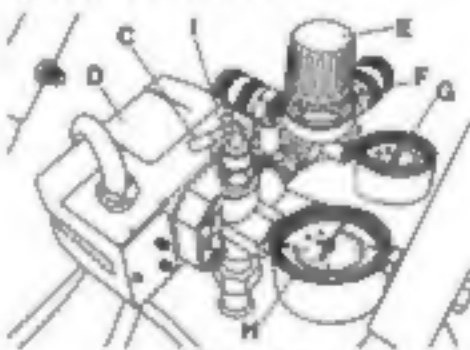

FIGURE 5
ON/AUTO-OFF SWITCH (C) FIG.5
PRESSURE SWITCH (D) FIG. 5
REGULATOR (E & F) FIG. 5
OUTLET PRESSURE GAUGE (G) FIG. 5
TANK PRESSURE GAUGE (H) FIG. 5
SAFETY VALVE (I) FIG. 5. If the pressure switch does not shut off the air compressor at its cutout pressure setting, this safety valve will protect against high pressure by popping out at its factory set pressure (slightly higher than the pressure switch cut-out setting).
9. Pull ring on safety valve (I) Fig. 5, allowing air to bleed from the tank until tank pressure is approximately 20psi. Release safety valve ring.
NOTE: If drain valve is plugged, pull ring on safety valve (I) Fig. 5, and hold until air pressure has been released. The valve can then be removed, cleaned, and reinstalled.
4. Pull ring on safety valve (I) Fig. 5, allowing air to bleed from the tank, until tank pressure is approximately 20psi. Release safety valve ring.
- NOTE: If drain valve is plugged, pull ring on safety valve (I) Fig. 5, and hold until air pressure has been released. The valve can then be removed, cleaned, and reinstalled.